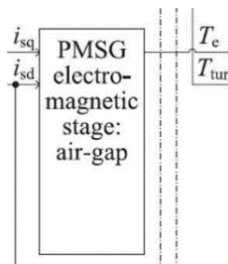

Figure 4: Subsystem of torque generation
3.3) Implement the torque generation as a subsystem (Fig. 4) in Simulink, similar to the block shown on the left.